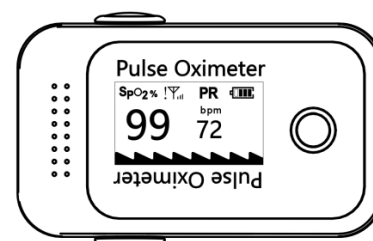

Figure 6
2. Just wait for a moment, the SpO₂ value and PR value will be displayed on the OLED screen after plethysmograph wave and measured values are stable, as shown in **Figure 6**.